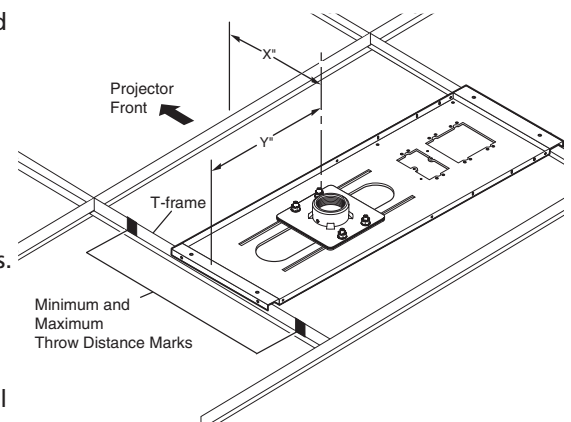

Figure 2. Minimum and Maximum Throw Distances
- Remove the predetermined ceiling tile and mark the maximum and minimum throw distances of the projector on the T-frame (see figure 2).
- Measure the distances X and Y (see figure 2) from the inner vertical section of the front and left T-frame runners to the center of the Pipe Adapter Plate.